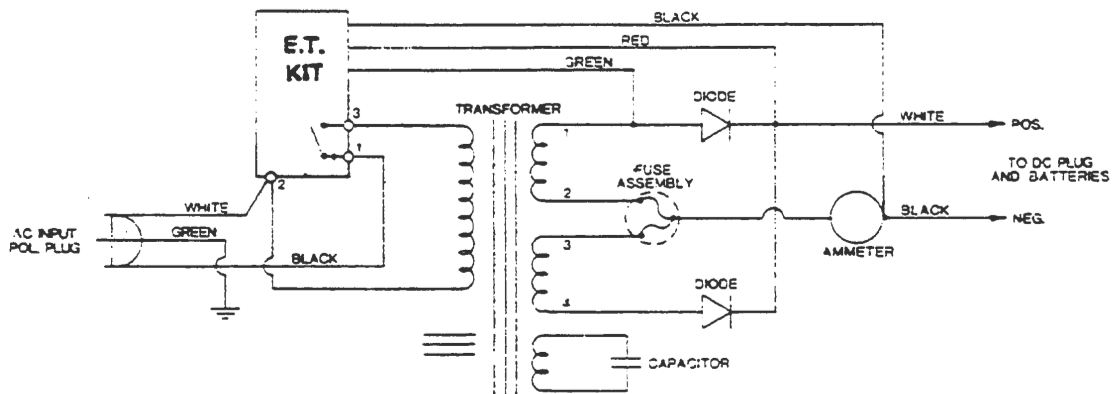

FIGURE 7
The voltage reading should be the same as the battery terminal voltage and must be between 20 and 50 volts DC in order to close the relay. If the DC voltage is within the above limits, remove the charger cover and verify that the charger is properly wired. (Refer to the wiring diagram in Figure 7.) If the charger is wired correctly, a malfunction in the Electronic Timer Kit has probably occurred. Due to its complexity, do not attempt to make field repairs to any part of the Electronic Timer Kit. If a malfunction exists, simply remove the entire Electronic Timer Kit and replace it with a new one. Refer to Section 6 - "Electronic Timer Kit Replacement" for correct procedures.
If AC power is present, disconnect the power supply cord from its outlet and the DC output connector from the battery connector. Bypass the Electronic Timer Kit as described in Section 1 Part A, and with a suitable continuity tester check the circuit across the power supply cord prongs as shown in Figure 1. With the Electronic Timer Kit bypassed, the CIRCUIT SHOULD BE COMPLETE. If the circuit is complete, refer to the wiring diagram in Figure 7, and check the relay wiring and all connections. If the circuit is not complete, check the wiring of the power supply cord, transformer primary coil leads and the Electronic Timer Kit. If the charger is wired correctly, individually check the continuity of the power supply cord, transformer primary coil and relay.
- c. If the Electronic Timer Kit does not operate as (a) and (b) above, refer to the appropriate wiring diagram in Figure 7 and check to be sure the charger is wired correctly. If the Electronic Timer Kit operates properly, the charger is ready for use. Always monitor the first charge cycle to verify that the charger is turning off properly.